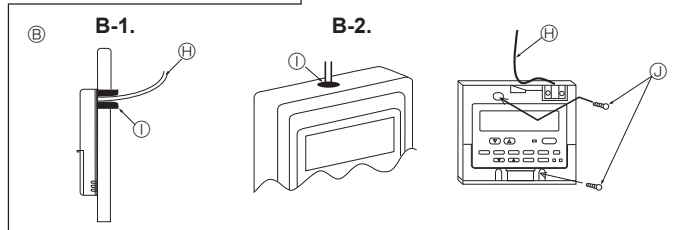

Fig. 6-3
- (2) Seal the service entrance for the remote controller cord with putty to prevent possible invasion of dew drops, water, cockroaches or worms. (Fig. 6-3)
[Fig. 6-3]